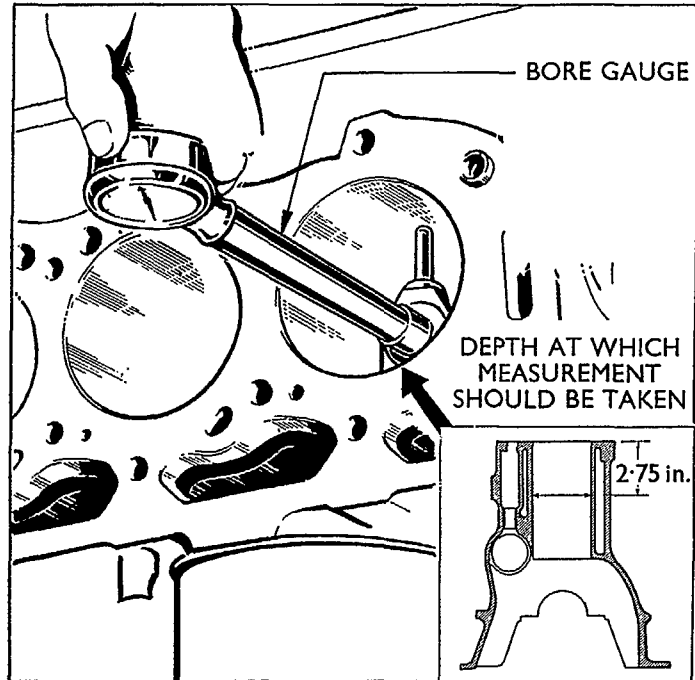

Figure 52
4. Using a bore gauge (or inside micrometer) check and record the cylinder bore diameter in a crosswise direction as shown in Figure 52.